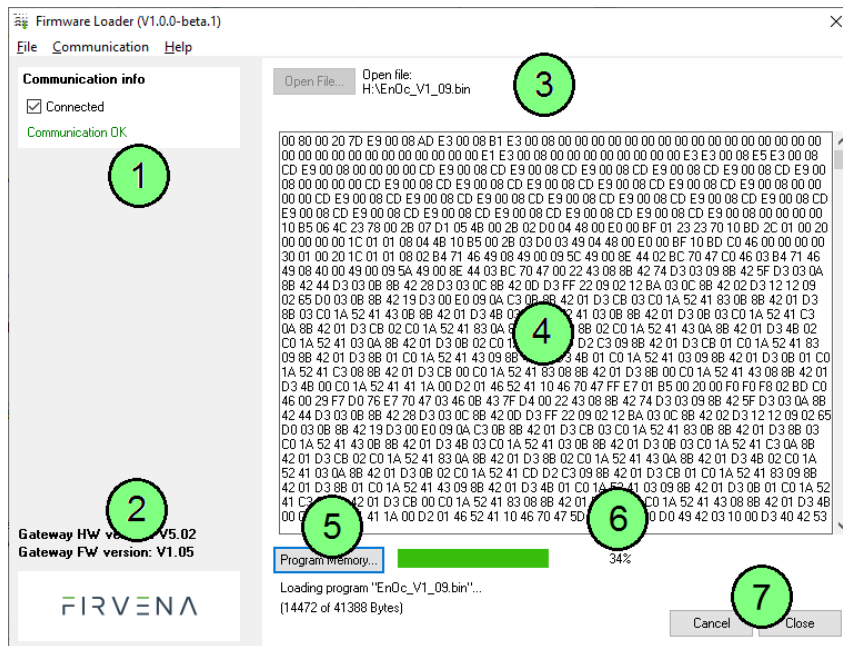

Fig. 14 Firmware Loader – main window overview
2. In the window shown, select the firmware file (Fig. 14 – 3).
3. By the “Program Memory” button start downloading of the firmware (Fig. 14 – 5).
5. Check firmware version (Fig. 14 – 2).